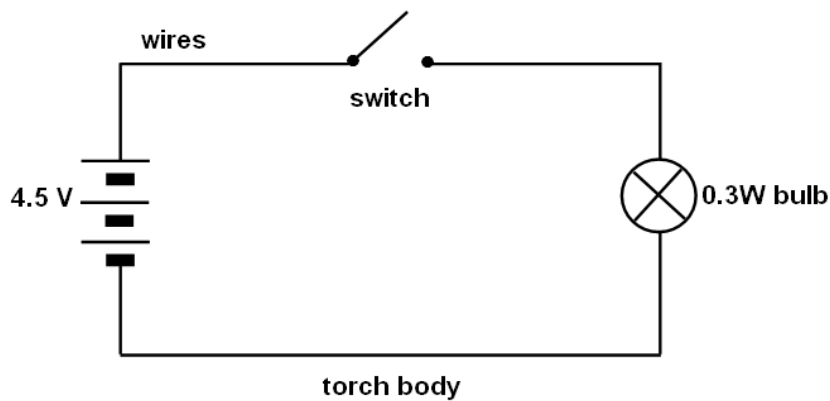

FIGURE 1
a- What are the objects in Fig. 1 called?
- Which rules do Fig. 1, 2 and 3 refer to?
Study Figure 1. In this simple flashlight circuit, the source comprises three 1.5 V cell in series. The load is a 0.3 W bulb. Part of the transmission system is the metal body of the flashlight, and the control is a sliding switch.